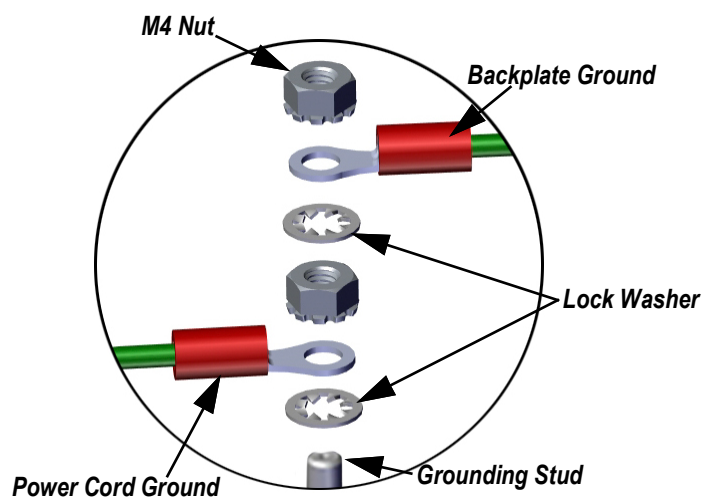

Figure 2-12. Grounding Stackup
3. Use the grounding stackup to terminate the ground wire to the grounding stud (see Figure 2-12).